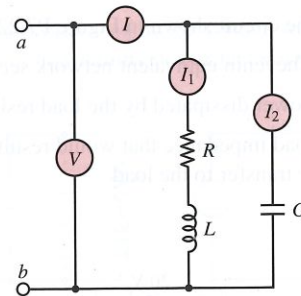

Figure P7.33
- 7.33** A single-phase motor is modeled as a resistor R in series with an inductor L as shown in Figure P7.33. The capacitor corrects the power factor between terminals a and b to unity. Assume the meters shown are ideal and $f = 50\text{ Hz}$, $V = 220\text{ V rms}$, $I = 20\text{ A rms}$, and $I_1 = 25\text{ A rms}$. Find the capacitor value.